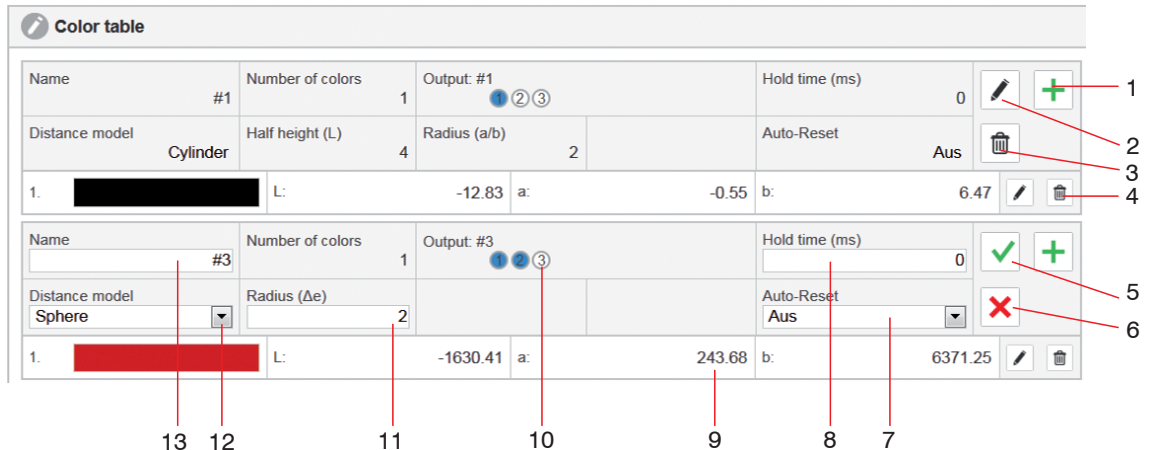

Fig. 47 Excerpt, color table
Teaching colors	Teaches current color (1) and adds it to the corresponding color group memory, see Fig. 47 .
Edit	Allows editing and setting the color group (2). The settings of a color group can be changed, such as Name (13), Distance model (12), tolerance size, Hold time (8) of the output signal, output configuration. The name may be a maximum of 64 characters long and contain only alphanumeric characters (a-z, A-Z, 0-9, no umlauts), spaces and the special characters +-#.,(), see Fig. 47 .
Delete	Deletes a color group (3) or color (4), see Fig. 47 .
Apply	Applies the current entry (5), see Fig. 47 .
Cancel	Discards the current entry without saving (6), see Fig. 47 .